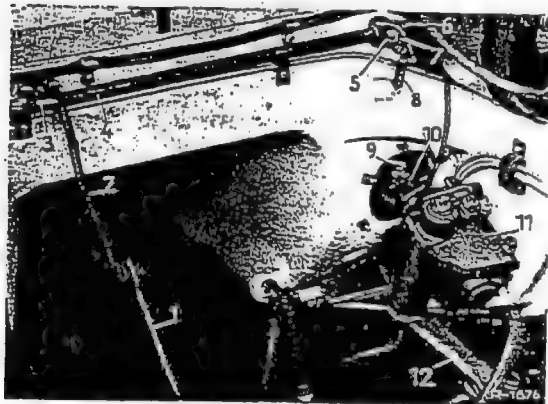

Fig. 46-8/5
4. On cars with mechanical steering loosen the two hexagon socket screws (9) and (10) on the steering coupling (Fig. 46-8/5). Then remove the pipe clip (4) from the steering column jacket (7) (Fig. 46-8/6).